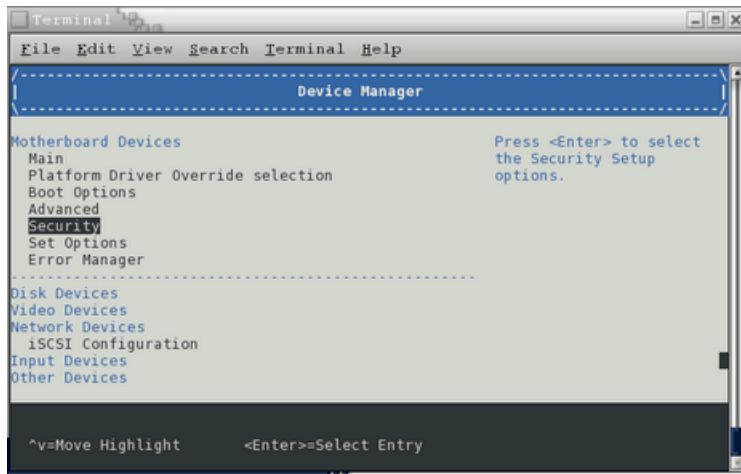

Figure 3-26 Device Manager Screen Security Option
4. From the **Device Manager** screen, select Security, as shown in Figure 3-26 on page 67.